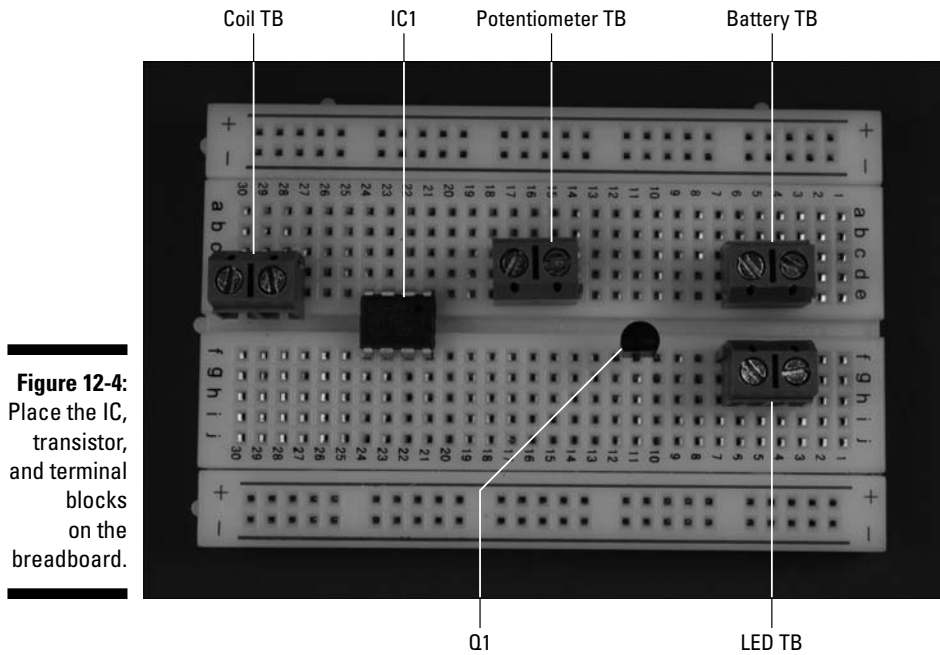

Figure 12-4:
1. Place TDA0161 (IC1), 2N3904 (Q1), and four terminal blocks (TB) on the breadboard, as shown in Figure 12-4.